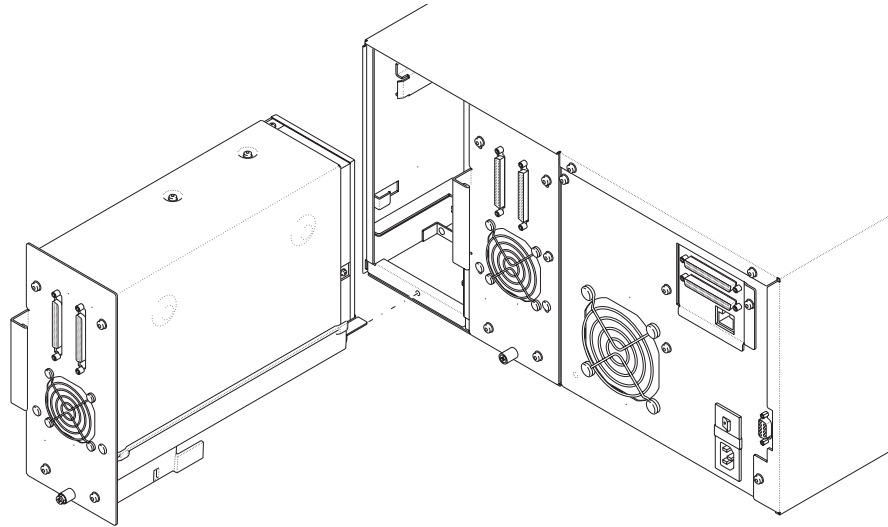

Figure 7-4 Sliding a tape drive into the library
1. Insert the tape drive so that the handle is at the left and the fan is at the bottom, as shown in Figure 7-4. The tape drive should slide easily toward the front of the library.